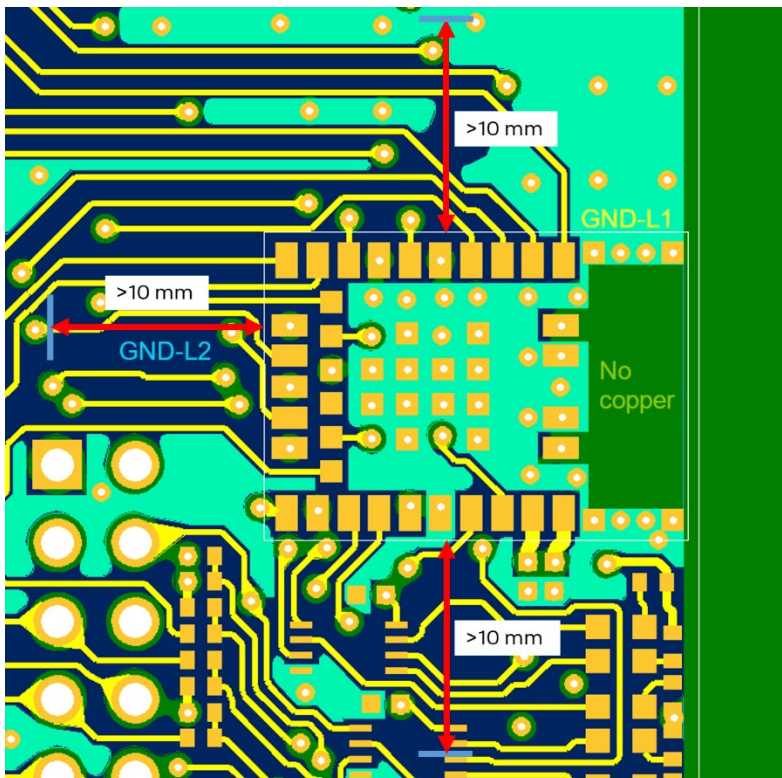

Figure 22: GND plane guard area enclosing the NINA-W1x6 module
- A large ground plane on the host PCB is a prerequisite for good antenna performance. It is recommended to have the ground plane extending at least 10 mm on the three non-edge sides of the module. See also Figure 22.